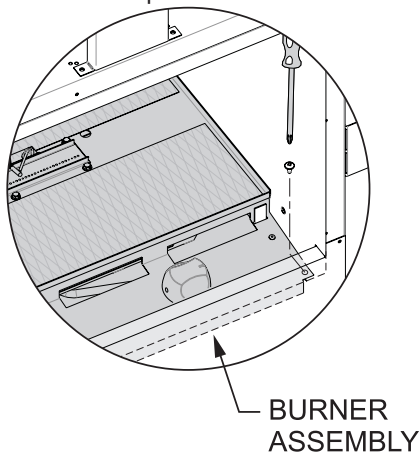

Figure 15
- c. Remove two screws from front corners of the control panel with a Phillips head screw driver. **See Figure 15.**